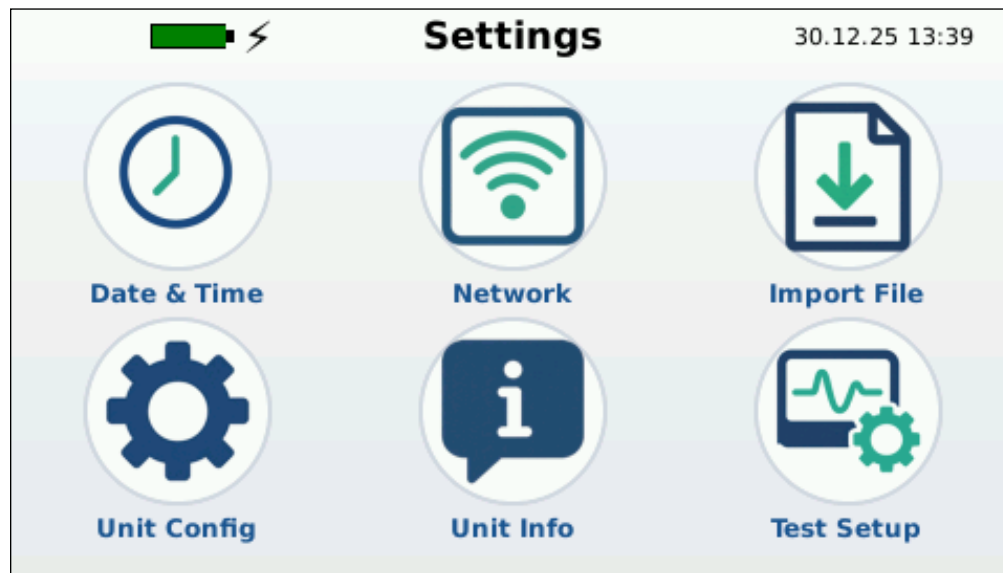

Figure 23
1. On the main screen, select **Settings** to open the Settings screen. The Settings screen (*Figure 23*) has the following options: